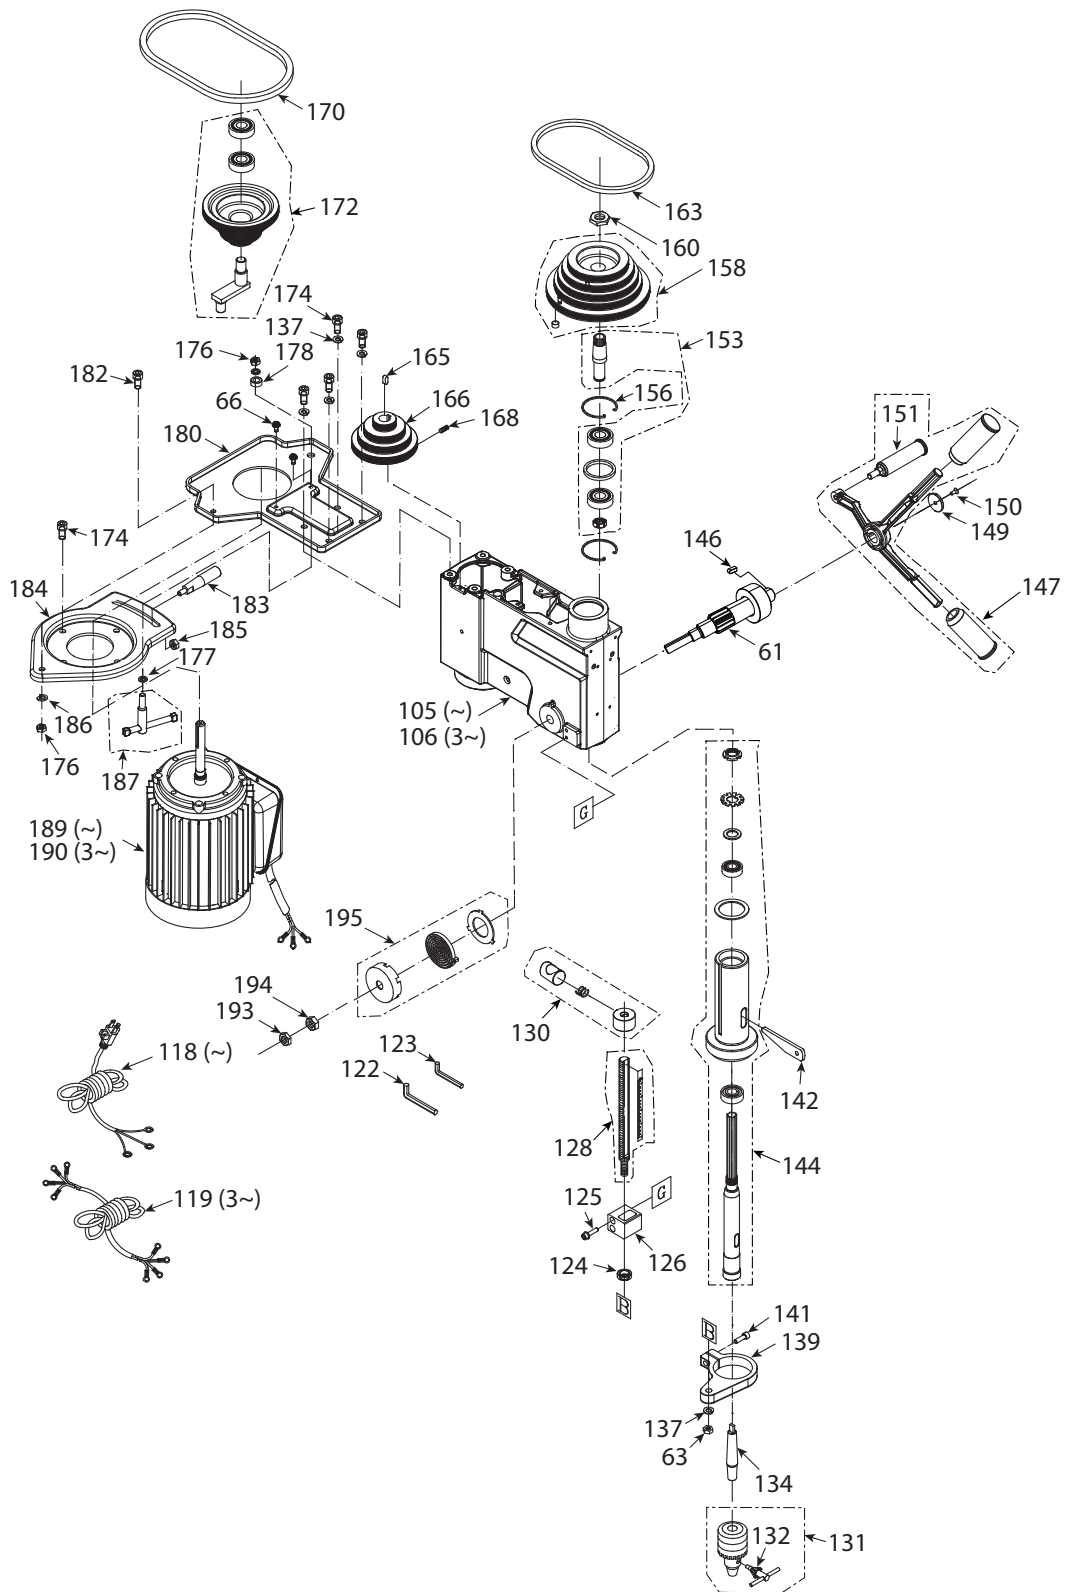

Figure 8 - Replacement Parts Illustration for Spindle and Drive (Single & Three Phase)
Refer to Figure 8.
- Lower quill assembly (Figure 8, Ref. No. 147) all the way down.
- Apply lubricant around the inside of the hole in the spindle pulley (Figure 8, Ref. No. 158 & 172).
- Apply lubricant to rack (teeth) on quill (Figure 8, Ref. No. 144) while extended below drill press head.